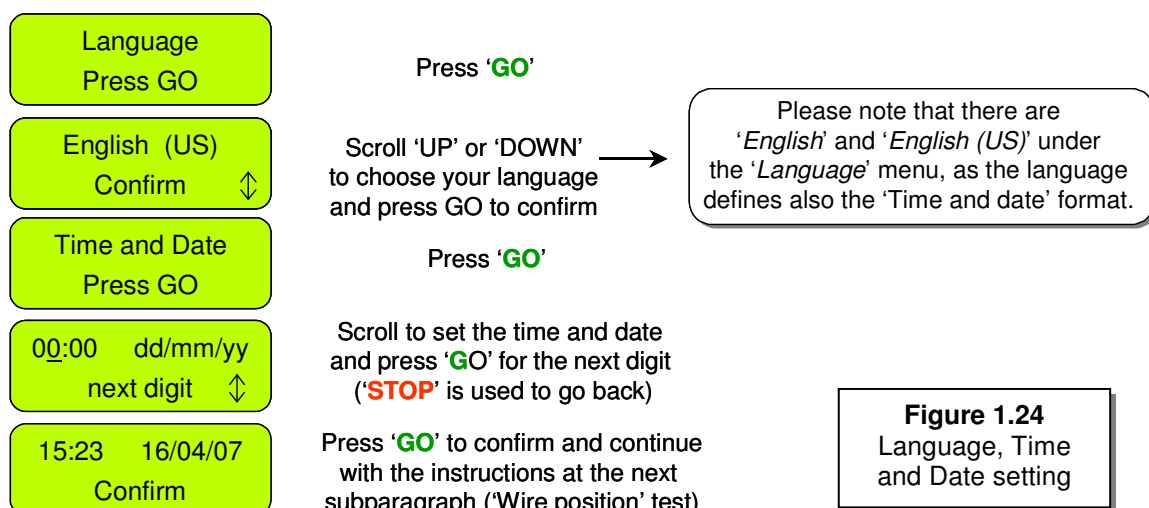

Figure 1.24
- '*Language*' is the first setting you are asked to set, as Robomow wakes up. Follow the instructions below, as shown in figure 1.24.